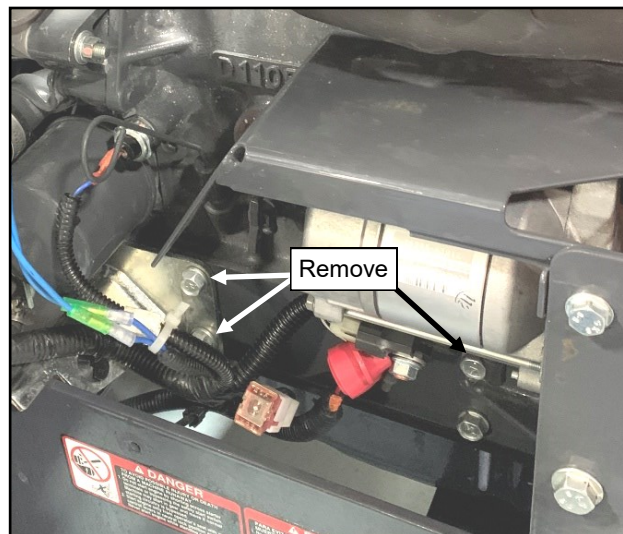

Fig. 1.6 (Remove bolts)
1.6 Remove and discard three bolts from the left side of the engine as shown in fig. 1.6.